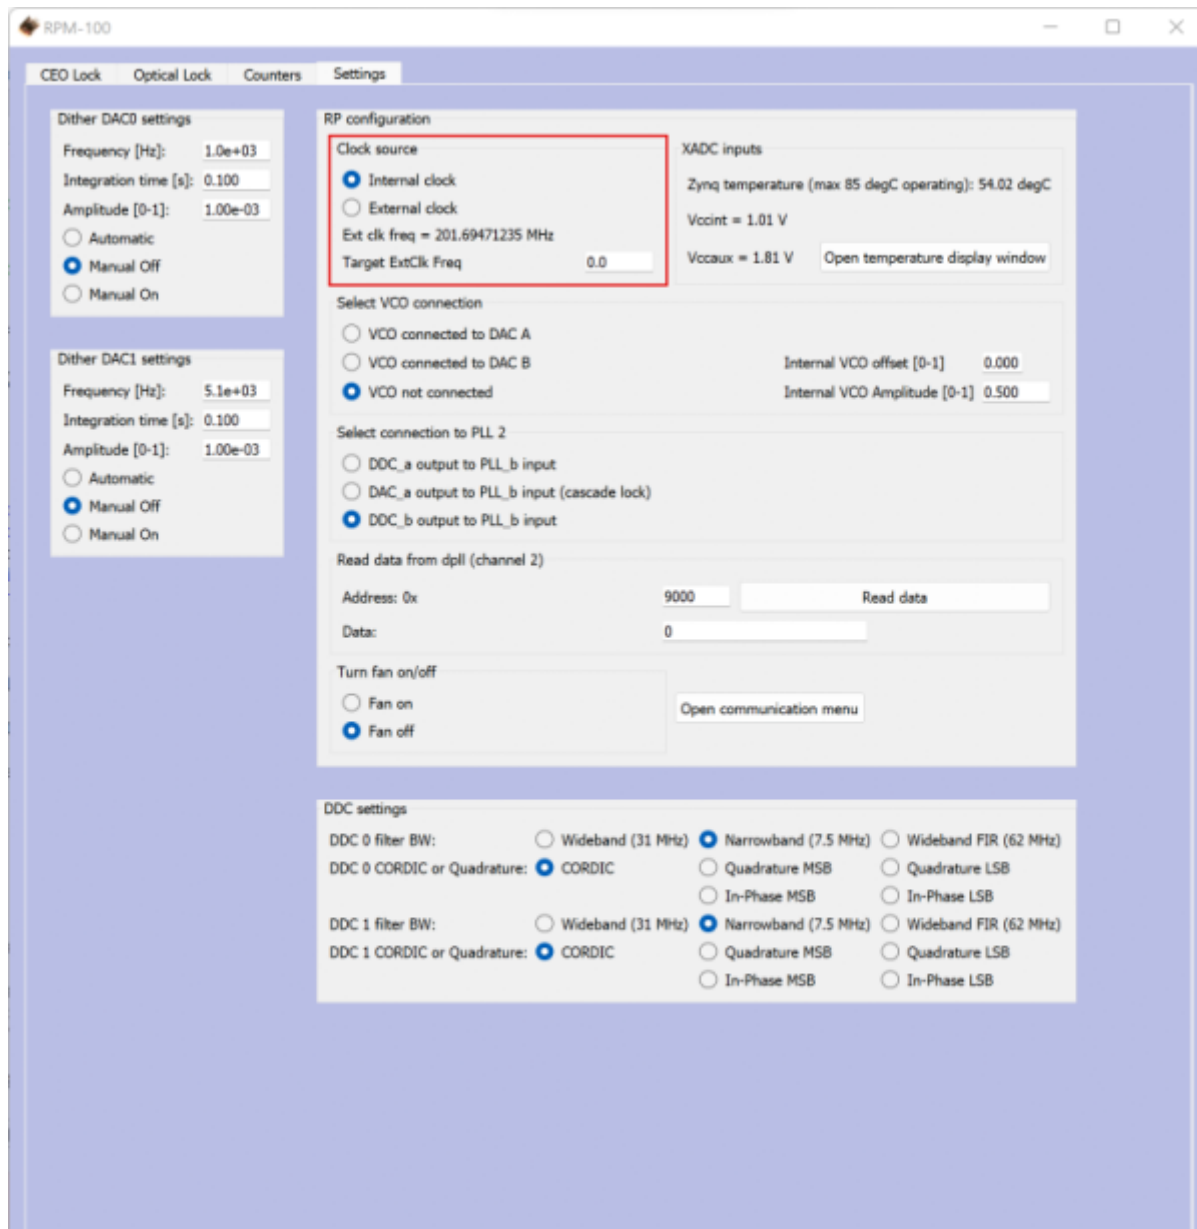

Fig. 8: Settings Tab
- Navigate to the “Settings” tab and select the appropriate clock signal to be used (figure 8). If